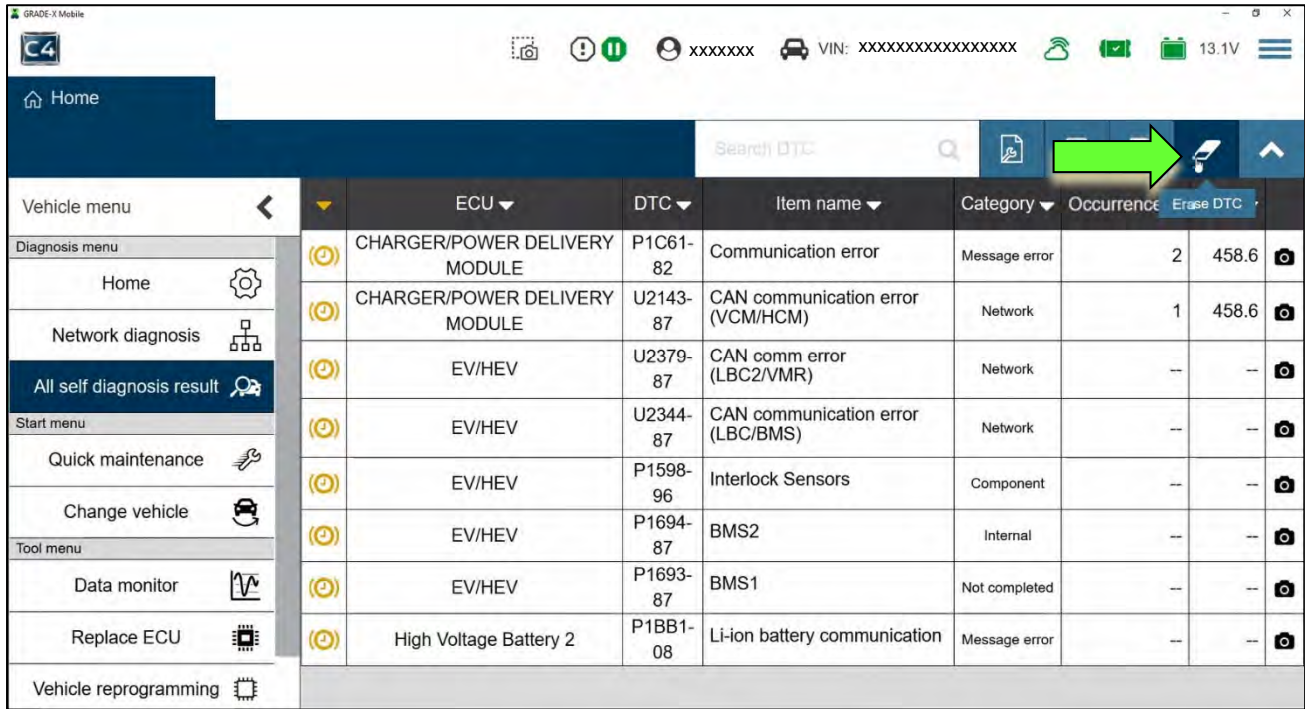

Figure 45
b. Select the “Erase DTC” icon shown in Figure 45.